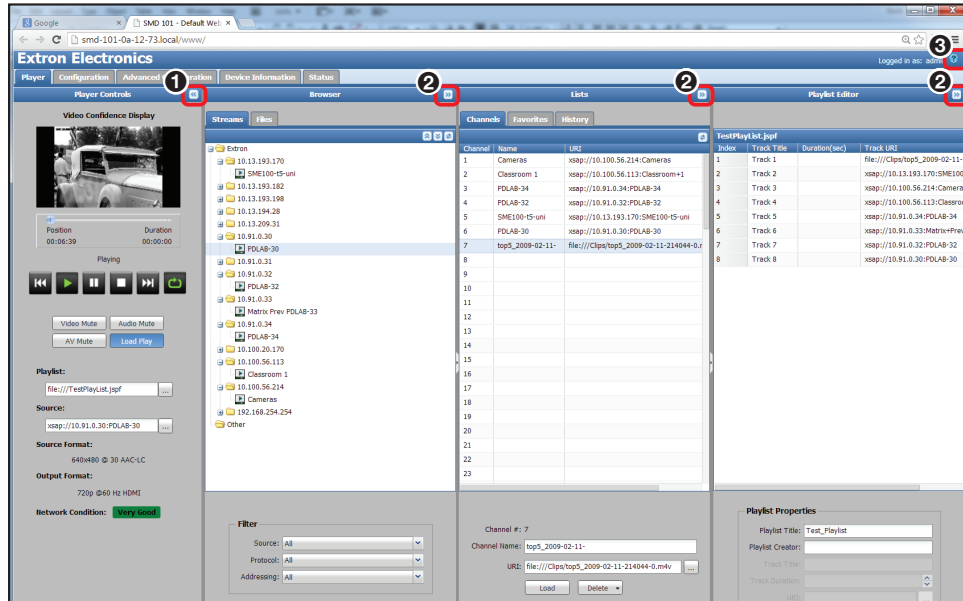

Figure 11. Player Page - All Panels Open
The web interface opens as shown in figure 11 (below). The page contains multiple panels that are collapsed and expanded using the buttons at the top of each panel (see figure 11, ① and ②).
An interactive embedded help file is always available by clicking the help icon (see figure 11, ③) from any page or panel.